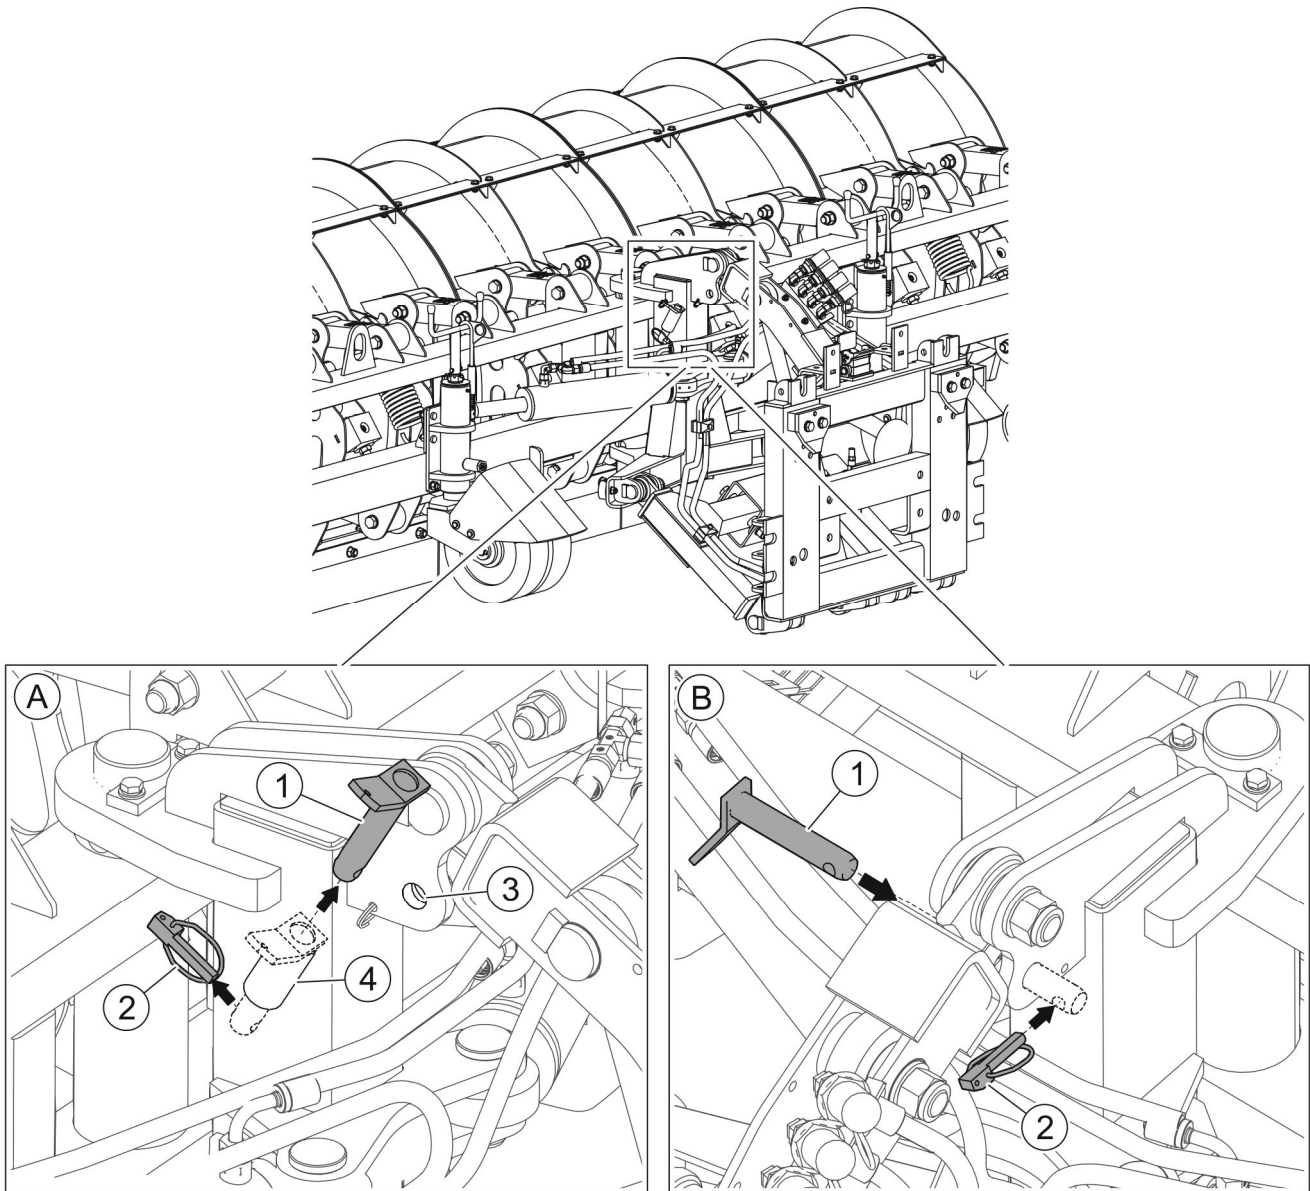

FIGURE 4.20 Transport lock mounting
- When transporting a raised plough, protect the linkage against falling or accidental dropping with transport lock (FIGURE 4.20).
In order to protect the linkage system in transport position (FIGURE 4.20):